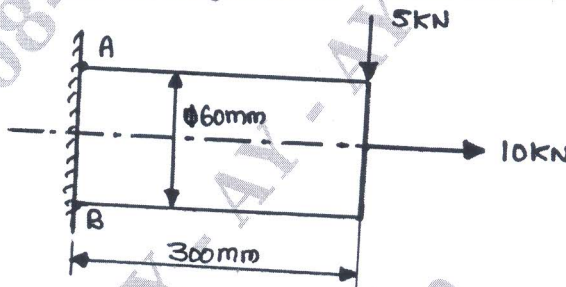

Fig Q1(b)
b. A circular rod of 60mm diameter is subjected to bending load and Tensile load as shown in Fig Q1(b). Determine the nature and magnitude of stress at the critical points.